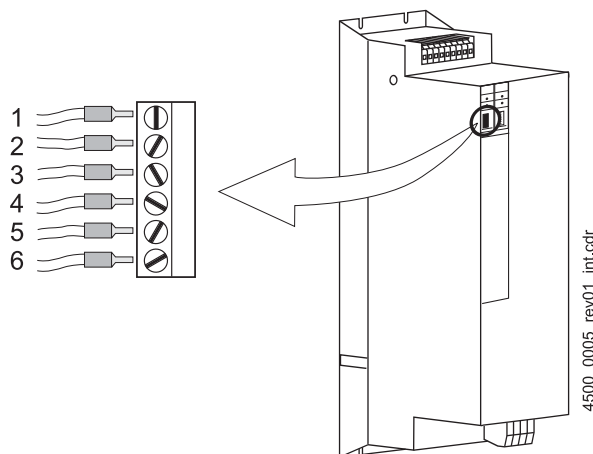

Figure 10: Control connection X99A
1) Position, see ►Figure 10◄ on page 45.